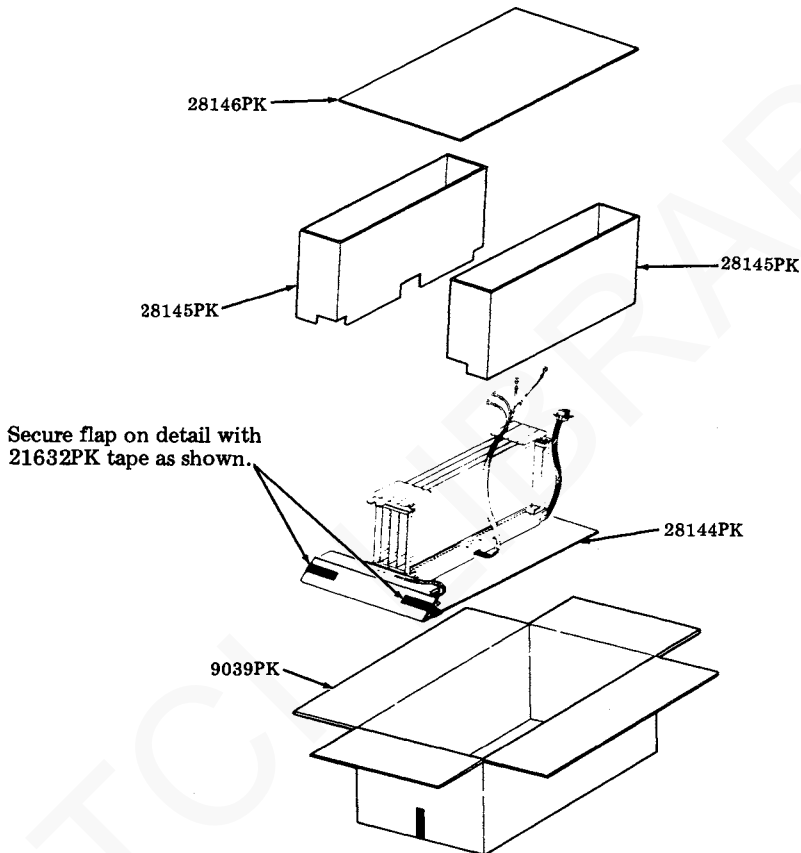

Fig. 58
- Step 2. Form a 28144PK detail. Position flap over top of connectors on end of controller and secure at ends with strips of 21632PK tape. See Fig. 58.
- Step 4. Form two 28145PK details and position on either side of unit as illustrated in Fig. 58. The cable with connector must be positioned in the void formed by the 28145PK detail. See Fig. 58.